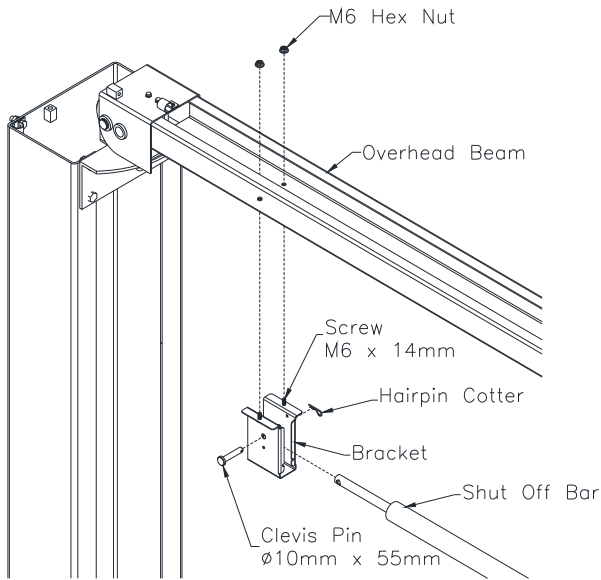

Fig. 7b – Overhead Limit Switch Idler Side
- 16) Install the Idler Bracket to the Overhead Beam on the Idler Side of the lift. See **Fig 7b**. **Note the orientation of the Idler Bracket. The narrow slot needs to be facing towards the Power Column.** Slide the Shutoff bar over the limit switch on the Power Side. Pin the Shutoff Bar to the Idler Side Bracket with the 10mm dia. x 55mm Lg. clevis pin & hairpin cotter.